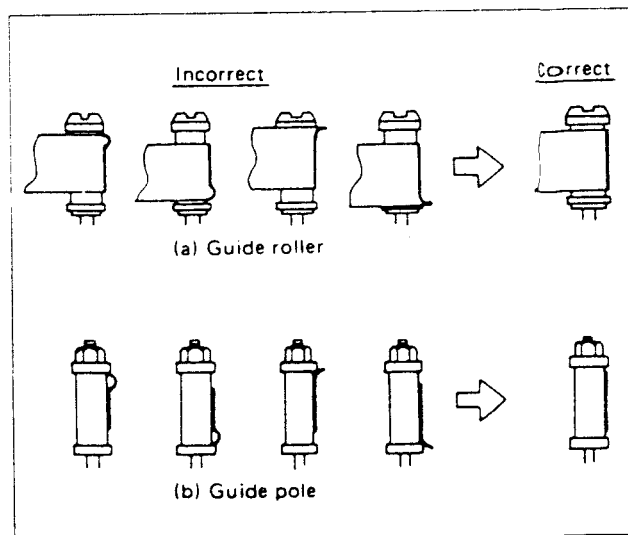

Fig. 2-5-7
- 8) After adjustment, confirm that the tape wrinkling does not occur at the roller upper or lower limits, as in Fig. 2-5-7.